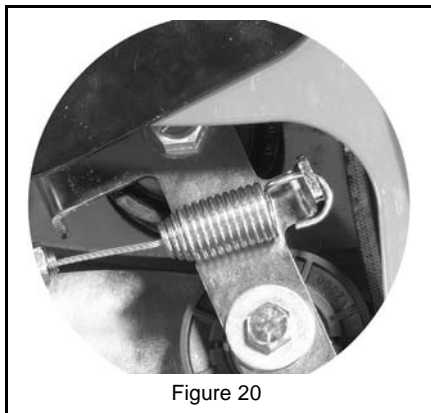

Figure 20
2. Connect the wheel drive cable spring to the idler arm as shown in Figure 20, and then connect the wheel drive cable to the transmission mount. See Figure 17.